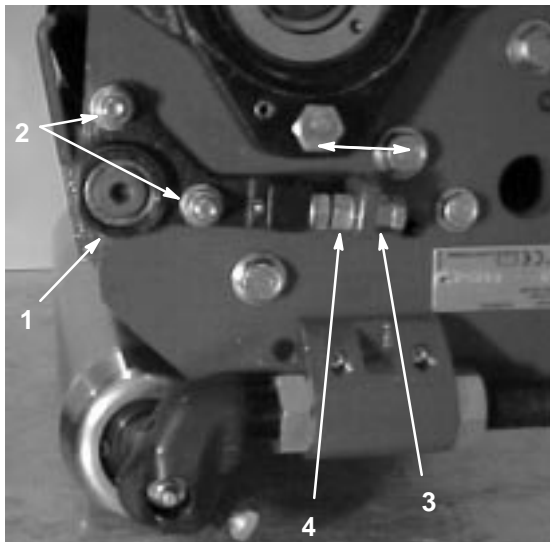

Figure 5
5. Loosen the pivot hub lock nuts to allow movement of the pivot hub casting (Fig. 5).
6. If paper was not cut on the left side: loosen the bottom adjusting nut on the pivot hub, then turn the top adjusting nut clockwise to pull the pivot hub up. **OR** If paper was not cut on the right side: loosen the top adjusting nut on the pivot hub, then turn the bottom adjusting nut counterclockwise to push the pivot hub down (Fig. 5).